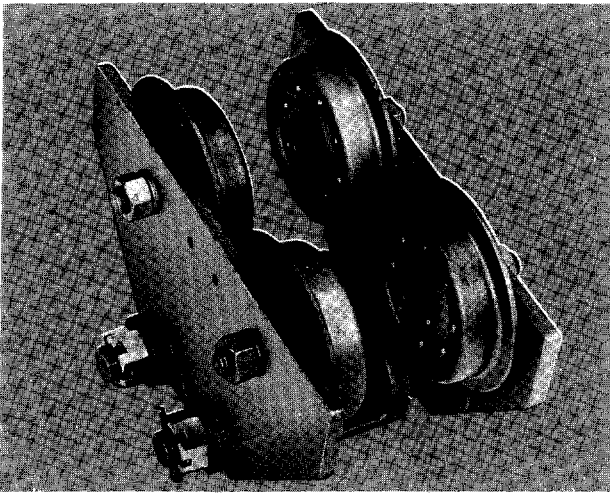

Figure 7. Series 635 Low Headroom Trolley
INSTALLING THE SERIES 635 LOW HEADROOM TROLLEY (See Figure 7)
1. Arrange the side frames, load bracket, spacer washers and nuts on the suspension bolts according to Figure 7 and Table 2. (Note: special trolleys shown in chart require special suspension bolts.) Do not assemble cotter pins to the bolts.